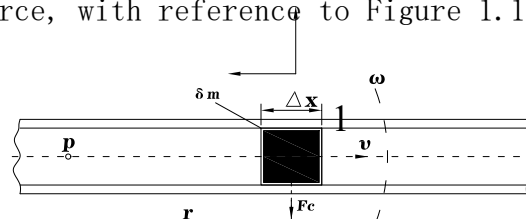

Figure 1.1
If a pipe is rotated around a point (P) while liquid is flowing through it (toward or away from the center of rotation), that fluid will generate an inertial force, with reference to Figure 1.1:
The force generated by tangential acceleration is Coriolis force, its value is equal to $F_c = 2\omega v \delta_m$. In figure 1.1 fluid $\delta_m = \rho A \times \Delta X$, So Coriolis force can be expressed as: